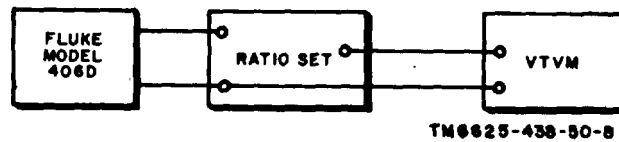

Figure 5-9. Decade resistor fault isolation, test setup.
- (6) Adjust the 1V-.01V ZERO control to zero the indicator on VOLTS meter M1.
- (7) Turn the VOLTS RANGE switch to CAL.
- (8) Depress the CAL PUSH switch, and vary the ADJ CAL control to zero the indicator on volts meter M1.
- (9) Set up the ratio set to deliver a 50-volt output when 50 volts are applied to the input of the ratio set.
- (10) Set the front panel controls as follows;
- (11) Connect the equipment as shown in figure 5-9.
- (12) Adjust the power supply until the vtvm indicates +50 volts.
- (13) Turn the NULL switch to 10, 1, .1, and .01. Refine the adjustment of the power supply for a zero indication on VOLTS meter M1 in each successive position of the NULL switch.